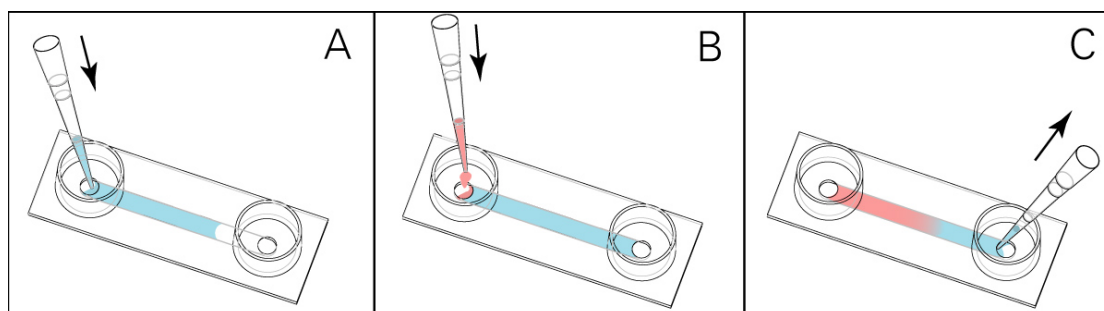

Fig. 1 Pipetting the gradient
- Prepare cells as usual and fill 100 μ l of the cell suspension into the channel (see **Fig. 1 A**). We recommend $3\text{-}7 \times 10^5$ cells/ml.
- Apply 20 - 40 μ l of your chemoattractant in one reservoir (see **Fig. 1 B**)
- Aspirate the same amount of liquid (20 - 40 μ l) from the opposite reservoir (see **Fig. 1 C**).